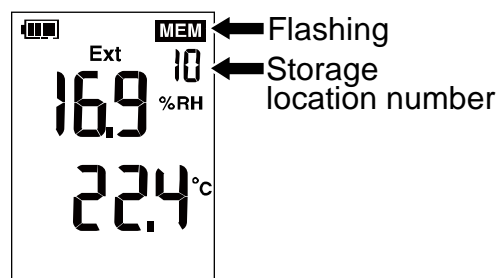

Figure 8. Recall Historical Data
2. Release RECALL 2sec **WB DP** when **MEM** flashes in the upper right corner of the screen, as shown in Figure 8.